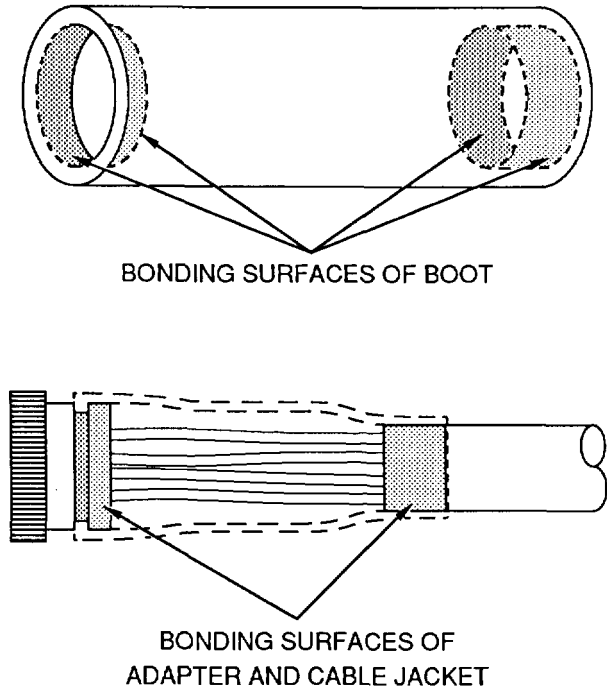

Figure 12. Abrading Bonding Surfaces
d. Abrade bonding surfaces of jacket and boot using emery cloth (Figure 12).